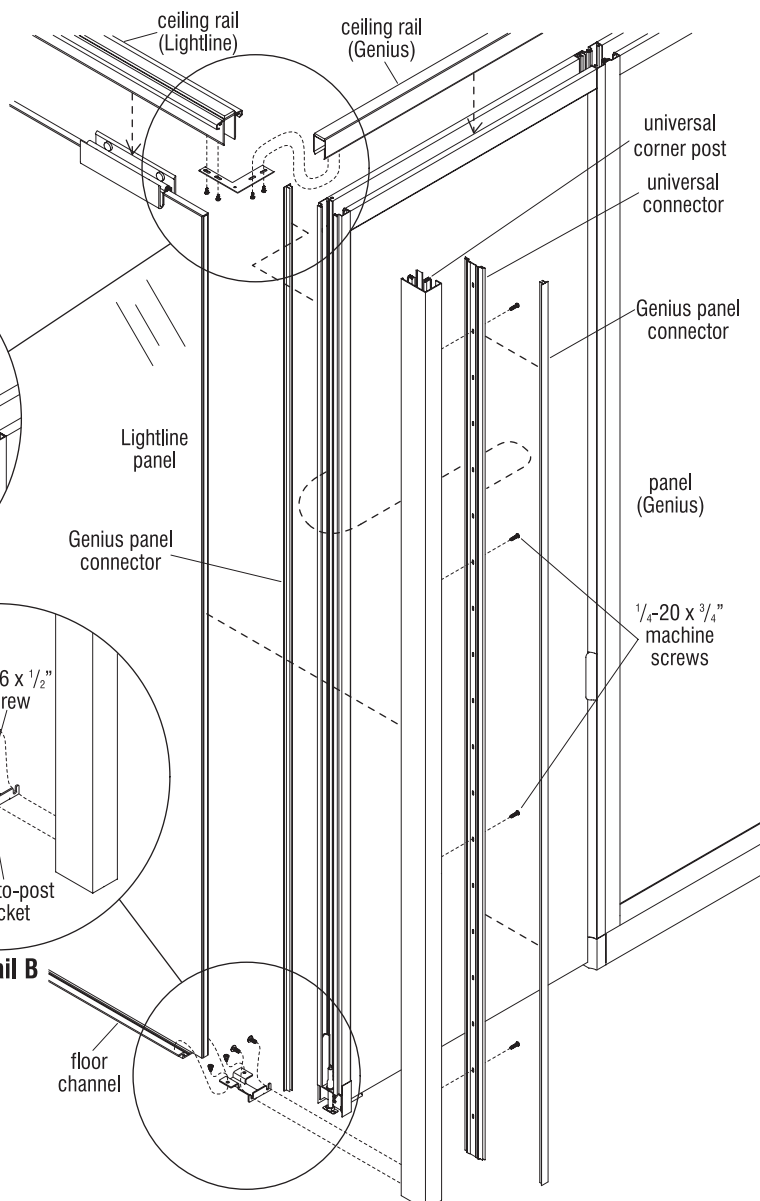

Figure 1
6. To connect, position a properly aligned and adjusted Genius panel to the universal connector, leaving about 1/16" gap between the two parts (Figure 1).
7. Insert two Genius panel connectors (one at each side) even with the top of the panel. Then, with your thumb, zip each connector firmly around the panel or post flanges, pressing down to the base (Figure 1).
9. Next, prepare Lightline panel with flexible glazing seal. See page 30, Figures 1 through 4. Once seal is installed, position a properly aligned and adjusted Lightline panel against the corner post (Figure 1).
10. Secure Lightline panel to universal post using a panel-to-post bracket. Position the panel-to-post bracket onto the continuous floor channel of the Lightline panel as illustrated. Align the bracket with the floor channel and secure with two screws. If securing over hard floor, use two #10-24 x 1/4" hard floor screws (V.12.0910) (shown). If installing over carpet, use two #14 x 1/2" carpet gripper screws (46.2799). Then secure the panel-to-post bracket to the corner post with two #10-16 x 1/2" screws into the the post (Figure 1 & Detail B).